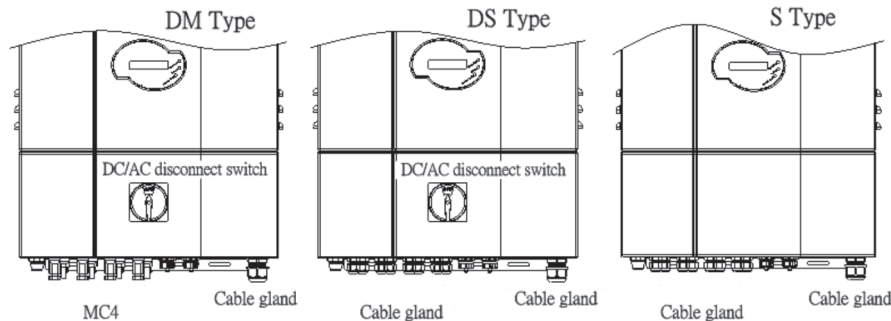

Fig 2.3.1 Wiring box type
The SE inverter is provided with four (4) (three (3) for SE 2.8i) independent PV strings to be connected in parallel in the wiring box. The wiring box of the SE inverter offers 3 options in DC cable connection, type DM, DS and S as shown in the figure 2.3.1. “**DM**” type wiring box has DC/AC disconnect switch and MC4 connectors built on the box. “**DS**” type wiring box has DC/AC disconnect switch built on, but there is no MC4 connectors for the DC wirings. “**S**” type wiring box has neither DC/AC disconnect switch nor MC4 DC connectors built on. Both **DS** and **S** types of wiring boxes have only screw terminals and cable glands for the DC wirings with the wire size in the range of #10 AWG and #6 AWG.